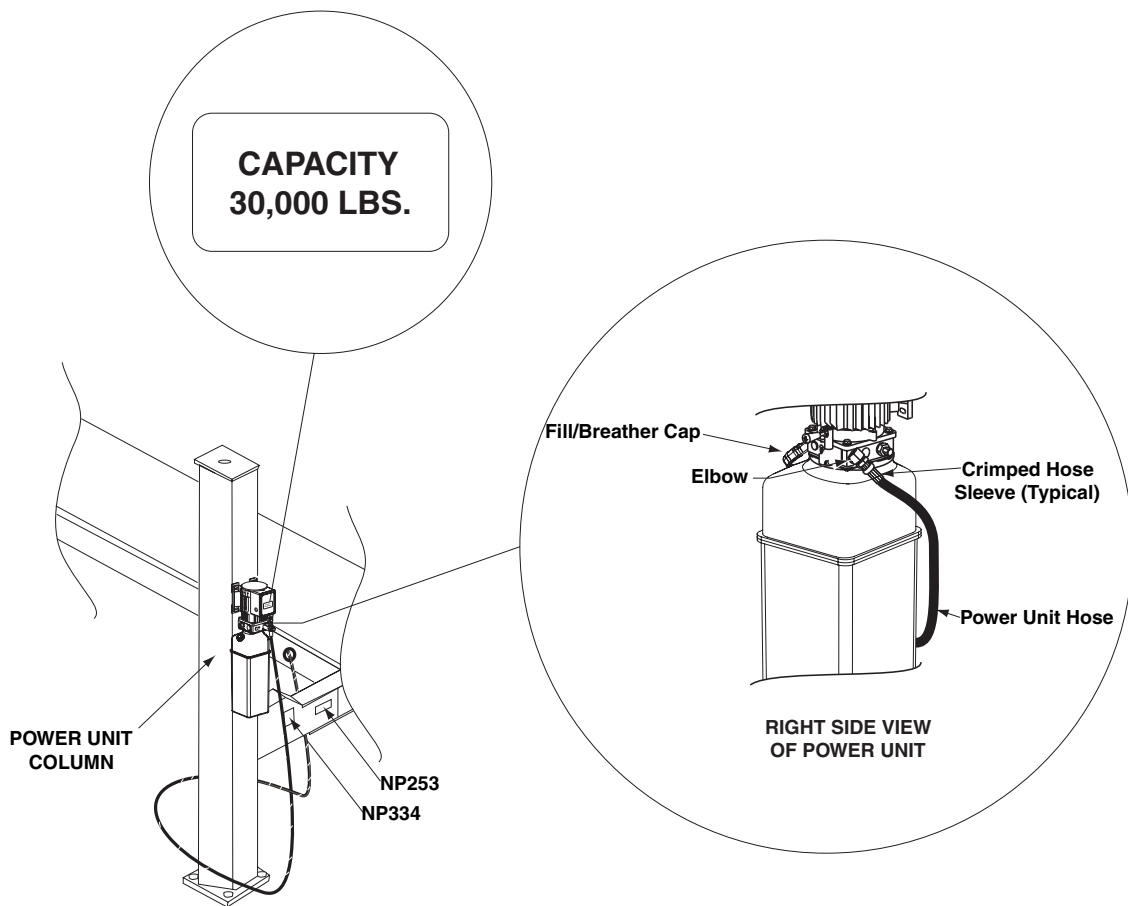

Fig. 17
- D. Run hydraulic hose from runway through slot in side of runway to power unit output port, Fig. 17. DO NOT use Teflon tape on hydraulic hose connections. Install and hand tighten elbow to pump until O-ring is seated and elbow should be oriented downward at approximately 45°, Fig. 17. Tighten locknut to 35-40 ft. lbs.
- E. Install enclosed capacity label on power unit, Fig. 17.
**PRECAUCIÓN** If fill/breather cap, Fig. 17, is lost or broken, order replacement. DO NOT substitute with a solid plug.
- A. System capacity is twenty-two (22) quarts. Use Dexron III ATF. Remove fill/breather cap and fill vent screw, Fig. 17.